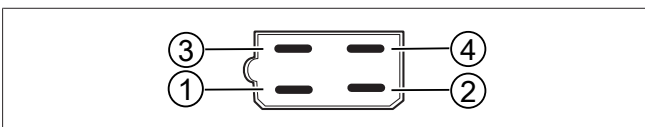

Fig. 14 Fan connections
③	+ 3 rd speed - ORANGE	④	+ 2 nd speed - RED
①	- return - BLACK	②	+ 1 st speed - YELLOW
1. Make the electrical connections according to Fig. 14. See Technical data for power and fuse requirements. Avoid fitting relays, fuses and switches close to refrigerant connections.